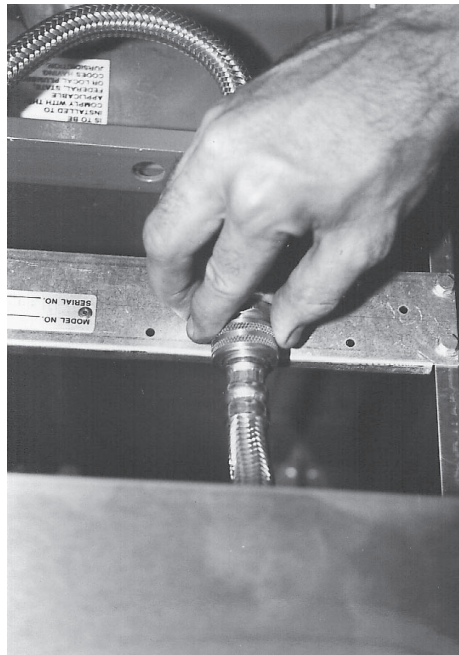

Fig. 78
3. Disconnect the rinse station hot and cold water hoses. (Fig. 78)